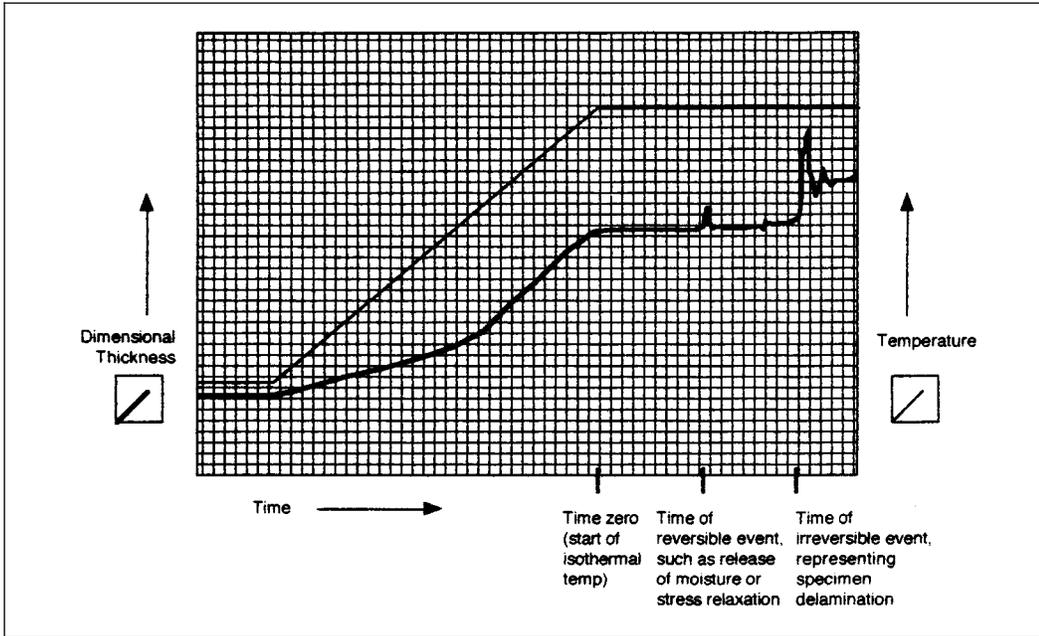

Figure 1
**5.3 Evaluation** The time to delamination is determined as the time from the onset of the isotherm to failure. Failure is any event or deviation of the data plot where the thickness is shown to have irreversibly changed. The scan in Figure 1 is typical of an epoxy material at 260°C [500°F] isothermal temperature. On occasion, some materials will delaminate before